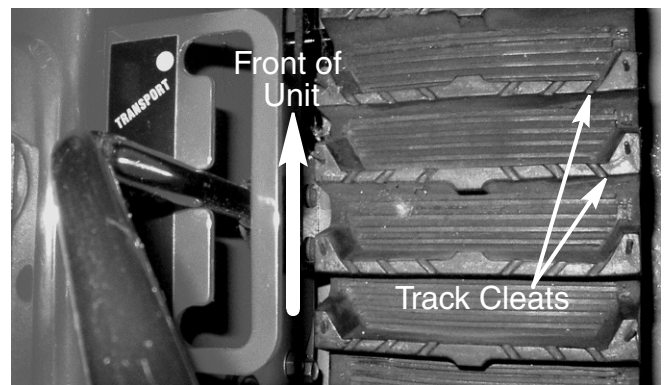

FIGURE 7
16. When replacing the RH track, ensure that the track's cleats are oriented as shown in Figure 7.